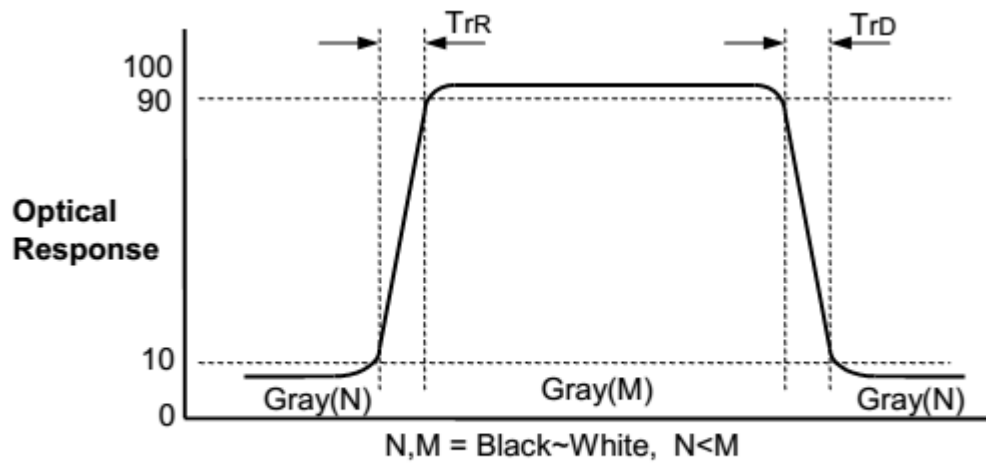

FIG. 3 Response Time
4. Response time is the time required for the display to transit from G(N) to G(M) (Rise Time, T_{R}) and from G(M) to G(N) (Decay Time, T_{D}). For additional information see the FIG. 3. ($N < M$)